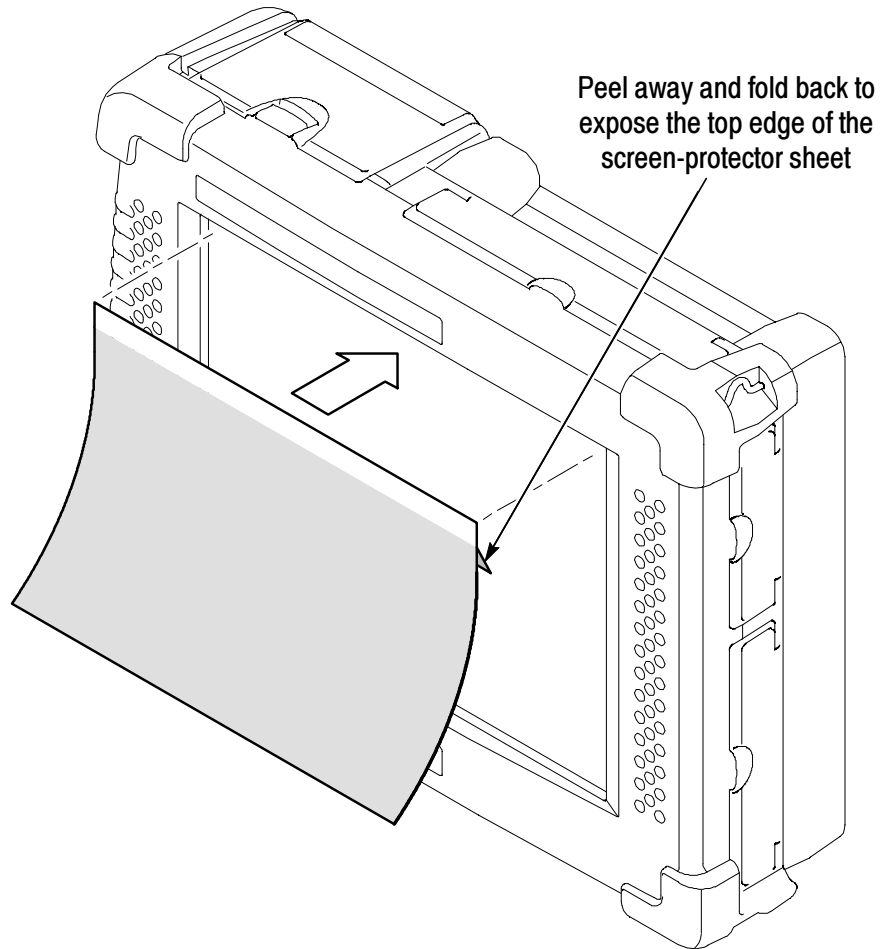

Figure D-1: Installing the screen-protector sheet
2. Align the exposed edge of the sheet with the top edge of the Touch-Screen Display. See Figure D-1.